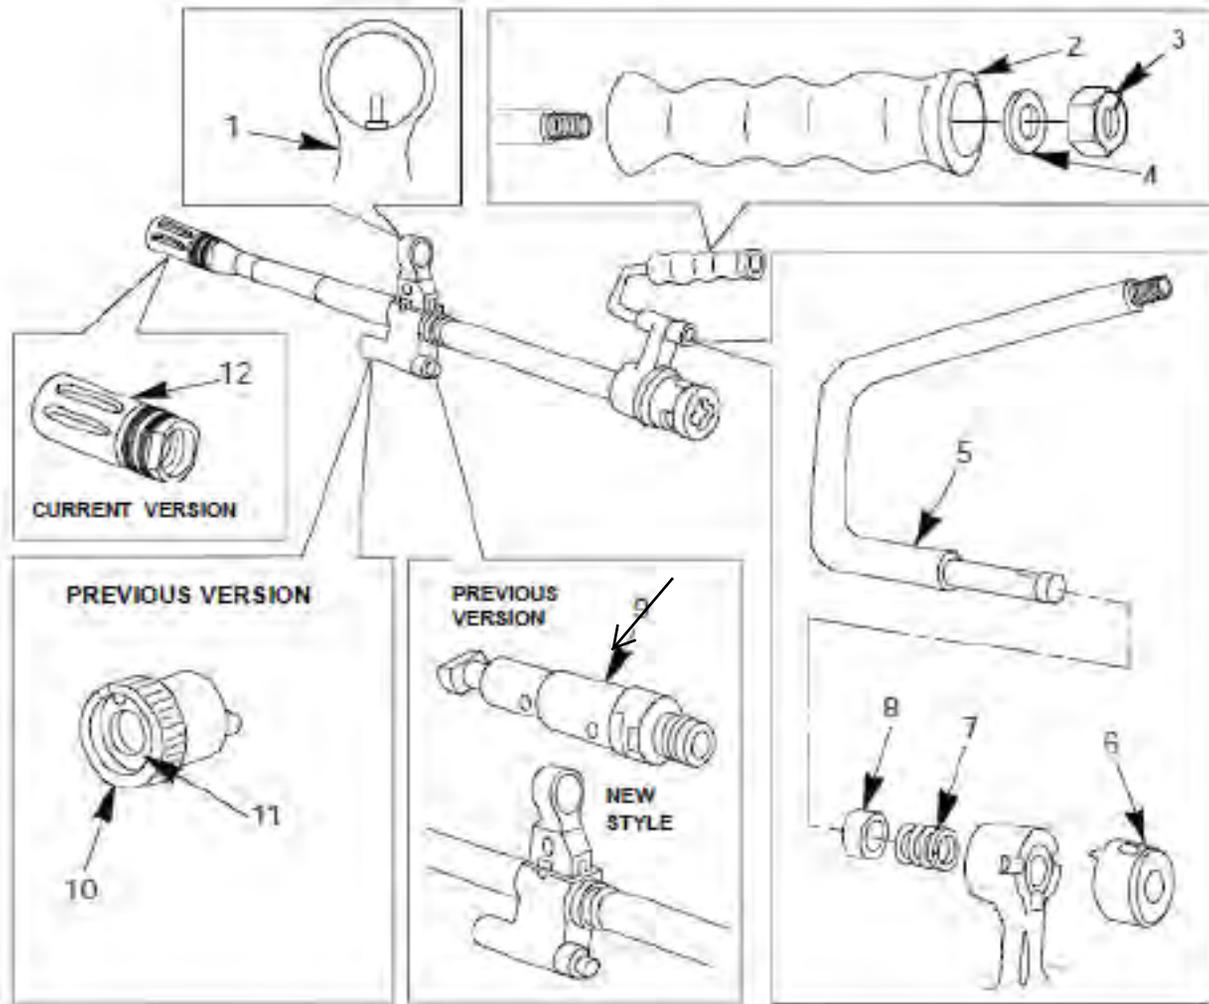

Figure 10. Barrel Assembly.
5. Inspect compensator (Figure 10, Item 12) for dents, cracks, or burrs. Replace if damaged or missing.
6. Inspect gas collar (Figure 10, Item 10) of previous version barrel for bent or missing spring washer (Figure 10, Item 11) and gas regulator (Figure 10, Item 9) for burrs. Replace if damaged or missing.
7. Inspect grip (Figure 10, Item 2) for cracks or breaks. Replace if broken or missing. Inspect washer (Figure 10, Item 4) and nut (Figure 10, Item 4) for burrs. Nut is discarded and replaced when reassembled. Replace if damaged or missing.
8. Inspect collar (Figure 10, Item 6), handle (Figure 10, Item 5), spring (Figure 10, Item 7) and bushing (Figure 10, Item 8) for damage. Replace unserviceable components.
9. Inspect front sight base (Figure 10, Item 1) for looseness or damage. If loose or damaged notify Field Maintenance.
10. Check current version barrel gas regulator (Figure 10, Item 9) for burrs. Replace if damaged.
- c. The barrel (Figure 12, Item 1) and bolt (Figure 12, Item 3) are considered to have proper headspace if bolt (Figure 10, Item 3) does not lock into barrel (Figure 12, Item 1) when headspace gage (Figure 12, Item 2) is installed.